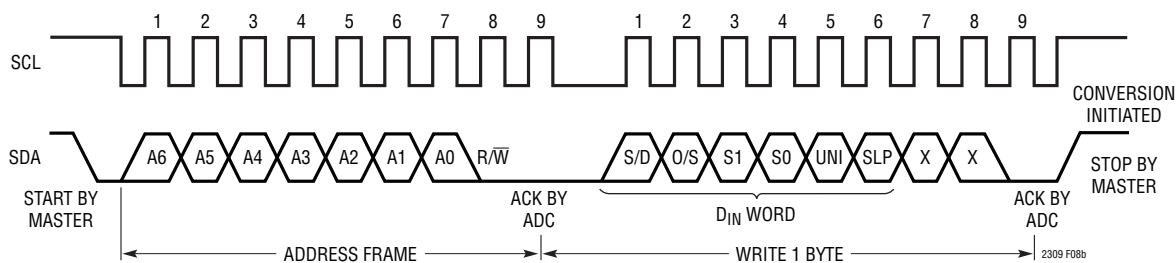

Figure 8b. Timing Diagram for Writing to the LTC2309
When the LTC2309 is addressed for a write operation, it acknowledges by pulling SDA low during the low period before the 9th cycle and acts as a receiver. The master/transmitter can then send 1 byte to program the device. The input byte consists of the 6-bit D_{IN} word followed by two bits that are ignored by the ADC and are considered don't cares (X) (see Figure 8b). The input bits are latched on the rising edge of SCL during the write operation.